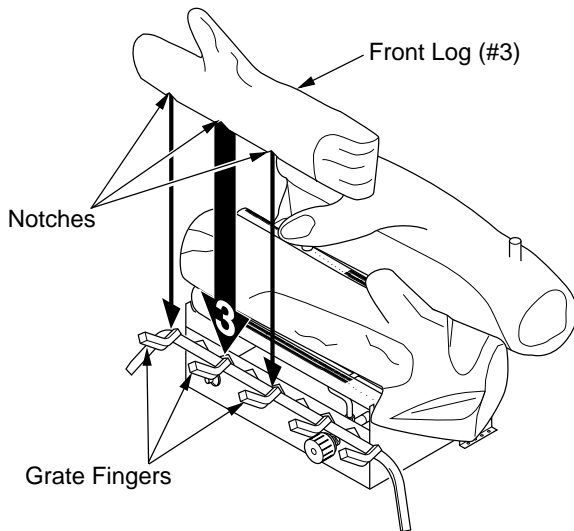

Figure 23 - Installing Front Log (#3)
3. Locate the notches in the bottom of the front log (#3). Place the front log on the grate fingers. Make sure the notches of the front log line up with the grate fingers (see Figure 23, page 15).